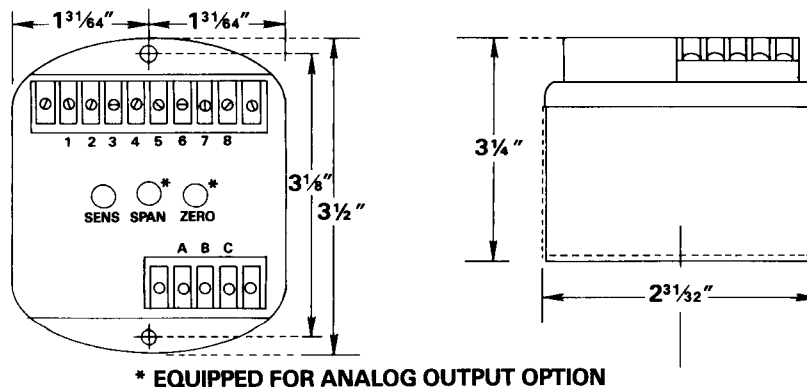

Figure 3-1. Dimensions and Potentiometer Locations
2. Turn the "SPAN" potentiometer fully counter-clockwise until slippage is felt or 25 turns. Refer to Figure 3-1.
4. Adjust "ZERO" potentiometer (refer to Figure 3-1) for desired "ZERO" current (i.e., 4 mA).
5. Inject the test frequency while adjusting "SPAN" potentiometer (refer to Figure 3-1) so the current equals to SET (SPAN).